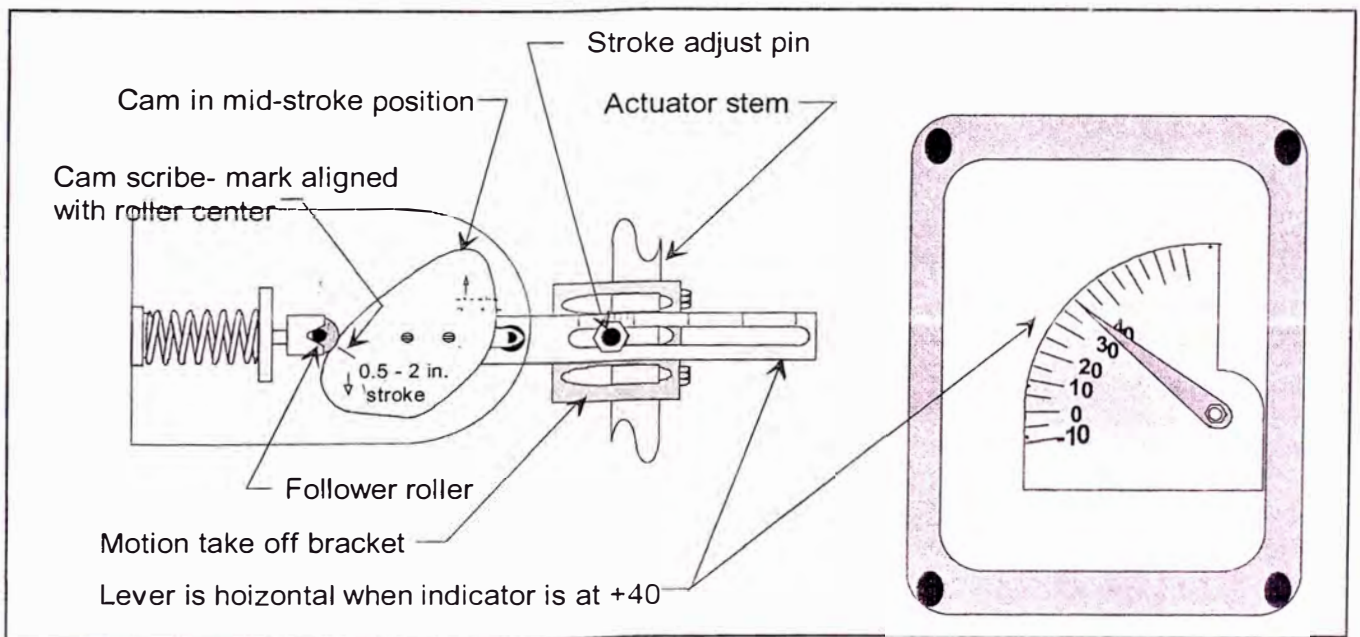

Figure 2-6. Mid-stroke alignment of Honeywell IGV positioner
- C. Slowly increase air pressure to the actuator. Watch the indicator and stop the IGV at +40°. This is the mid point-of the valve and positioner travel. If necessary, loosen the bolts holding the motion take off bracket and align the positioner lever so that the scribe line on the cam points through the center of the cam follower roller when the lever is horizontal. Figure 2-6 illustrates the correct alignment of the lever.